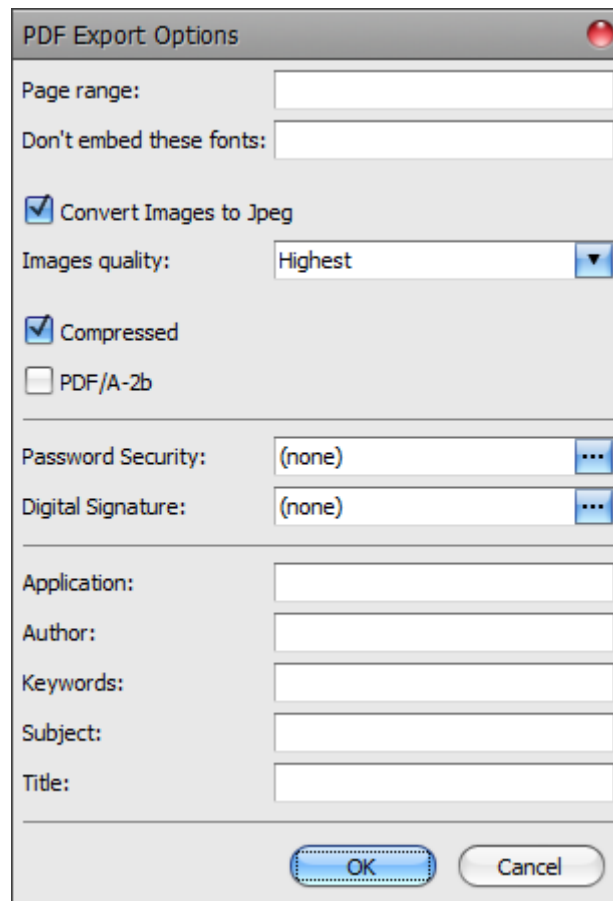

Figure 5-44: PDF Export Options
- Once you select a format, its **Export Options** window appears. You can select additional options for your report (Figure 5-44). Note that the **Export Options** window is different for each of the formats.